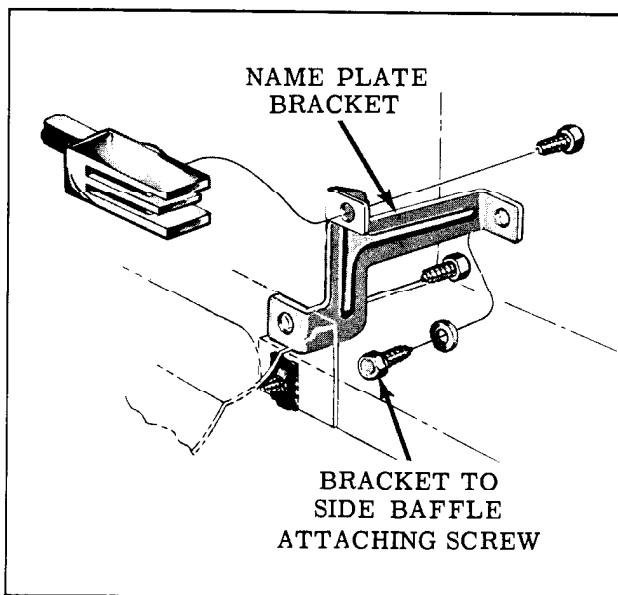

Fig. 11-9 Grille Nameplate
6. Remove the "OLDSMOBILE" grille name plate bracket to side baffle attaching screw. (Fig. 11-9)
4. Remove the "OLDSMOBILE" grille name plate to side baffle attaching screw. (Fig. 11-9)
4. Remove two name plate outer bracket to side baffle attaching screws. (Fig. 11-9)